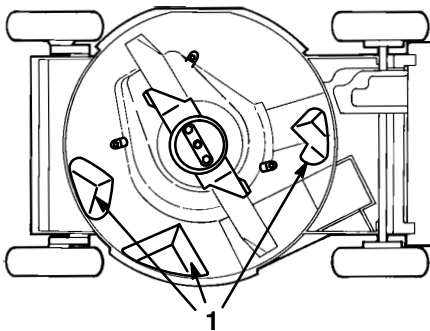

Figure 30
Keep underside of mower housing clean. Be especially careful to keep kickers free of debris (Fig. 30).
3. Tip mower on its left side (Fig. 30).